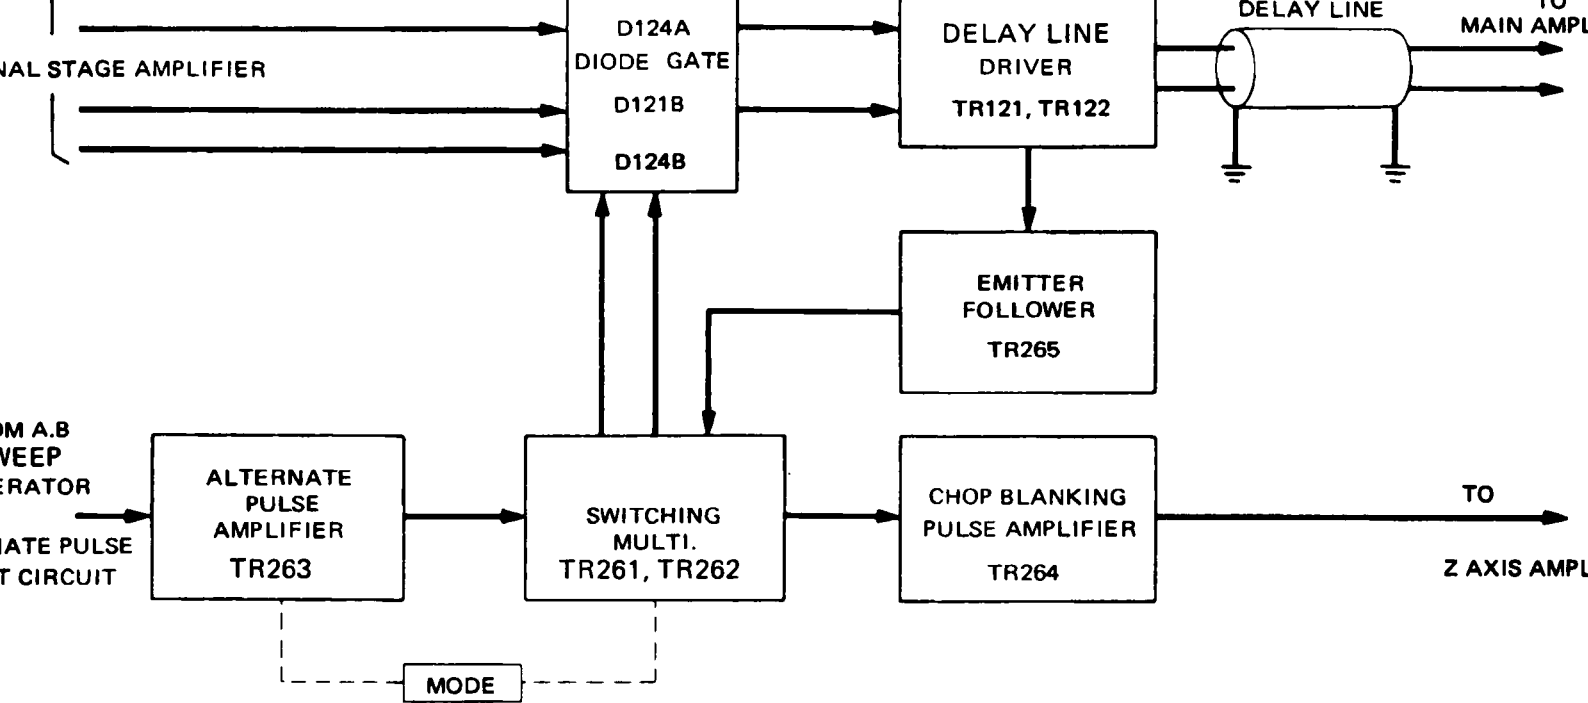

Figure 3-4 Switching Circuit Block Diagram
e. Switching Circuit (Schematic 4). The output signals from both preamplifiers are connected to a diode gating network in the switching circuit (see Figure 3-4). This network controls the signal connection to the main vertical amplifier to give single or dual-trace operation, as well as signal addition.